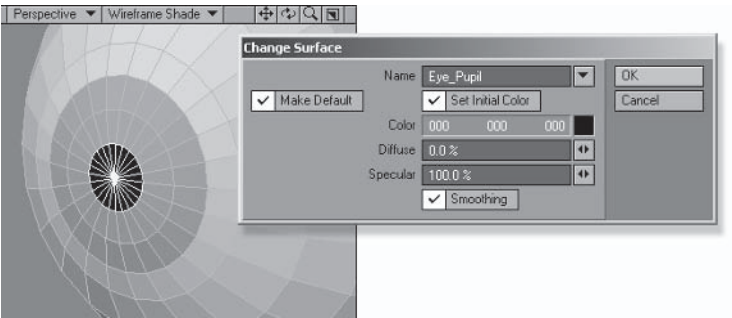

Figure 5.3-134. Pupil surface.
8. **Contract Selection** (**Shift+I**) twice and **Change Surface** to **Eye_Pupil** using the settings shown in Figure 5.3-134.